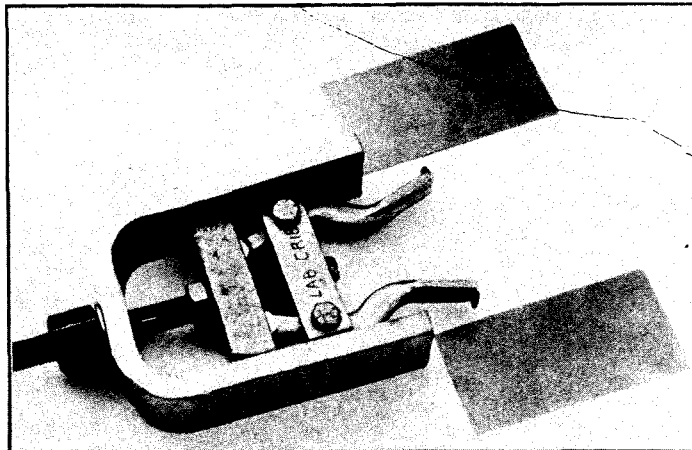

Figure 5. Valve Block Bearing Race Removal Tool and Shim Stock.
- Bearing race removal tool and shim stock. (See Figure 5.)